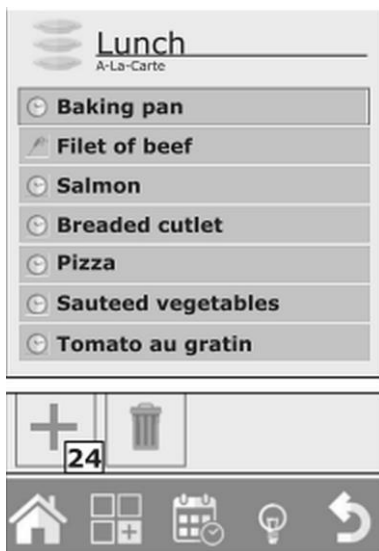

Fig. 31
2. Press the '+' key (24, Fig. 31).
5. Press the '+' key (24, Fig. 31) to continue and add further dish names.